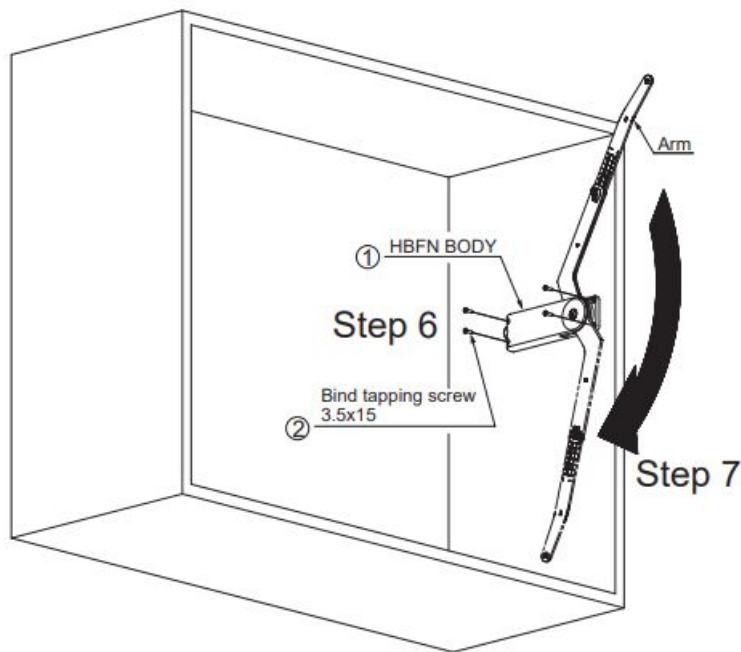

Fig. 7 Installation of side body
- Step 6. Set the unit body 1 (or 2) with the arm length adjusted according to the door height into the specified position on the inside surface of the cabinet (as for the mounting dimensions refer to Fig. 3 & Table 2), and fix the unit body 1 (or 2) with the attached bind tapping screws 3.5x15 3. (Fig. 7)
- Step 7. Pull down the arm to the arrow direction completely. (Fig. 7)